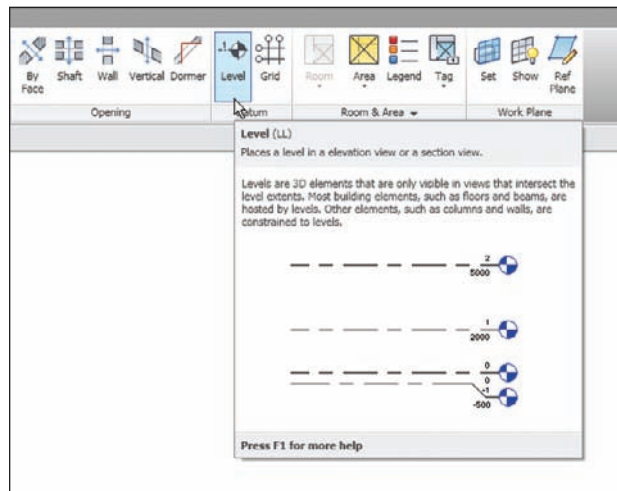

FIGURE 3.4 Adding a level from the Datum panel on the Home tab
1. On the Datum panel of the Home tab, click the Level button, as shown in Figure 3.4.